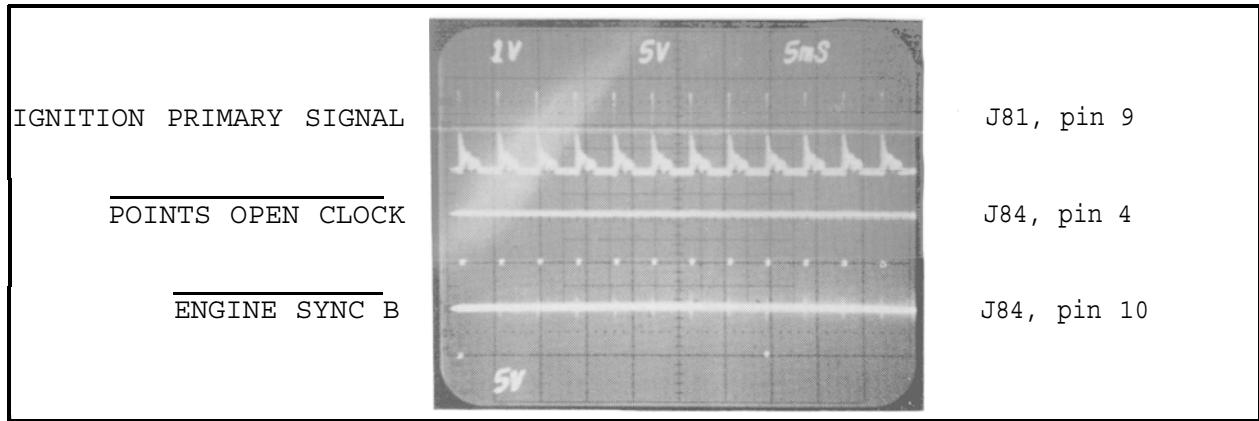

FIGURE 3-1 POINT OPEN CLOCK & ENGINE SYNC B (8 Cylinder Engine)
2. With an oscilloscope verify that the ENGINE SYNC A* signal & the POINTS OPEN CLOCK* signal is being output by the Analog Scope Board, pins 10 & 4 of J84 respectively (figure 3-1).
1. With an oscilloscope, verify that the ENGINE SYNC B* signal & the PNTS OPEN CLK* signal is stable (figure 3-1), Analog Scope Board, pins 10 & 4 of J84 respectively (figure 3-1).
If the conditions are not met, verify that a primary signal (figure 3-1) is available at pin 2 of the Trigger board.